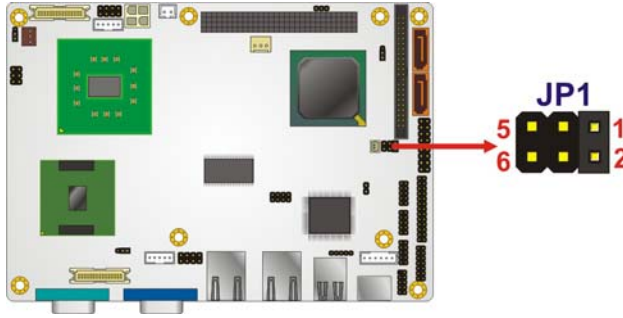

Figure 4-18: COM 2 Function Select Jumper Location
- Jumper Location:** See **Figure 4-18**
The COM 2 Function Select jumper location is shown in **Figure 4-18**.